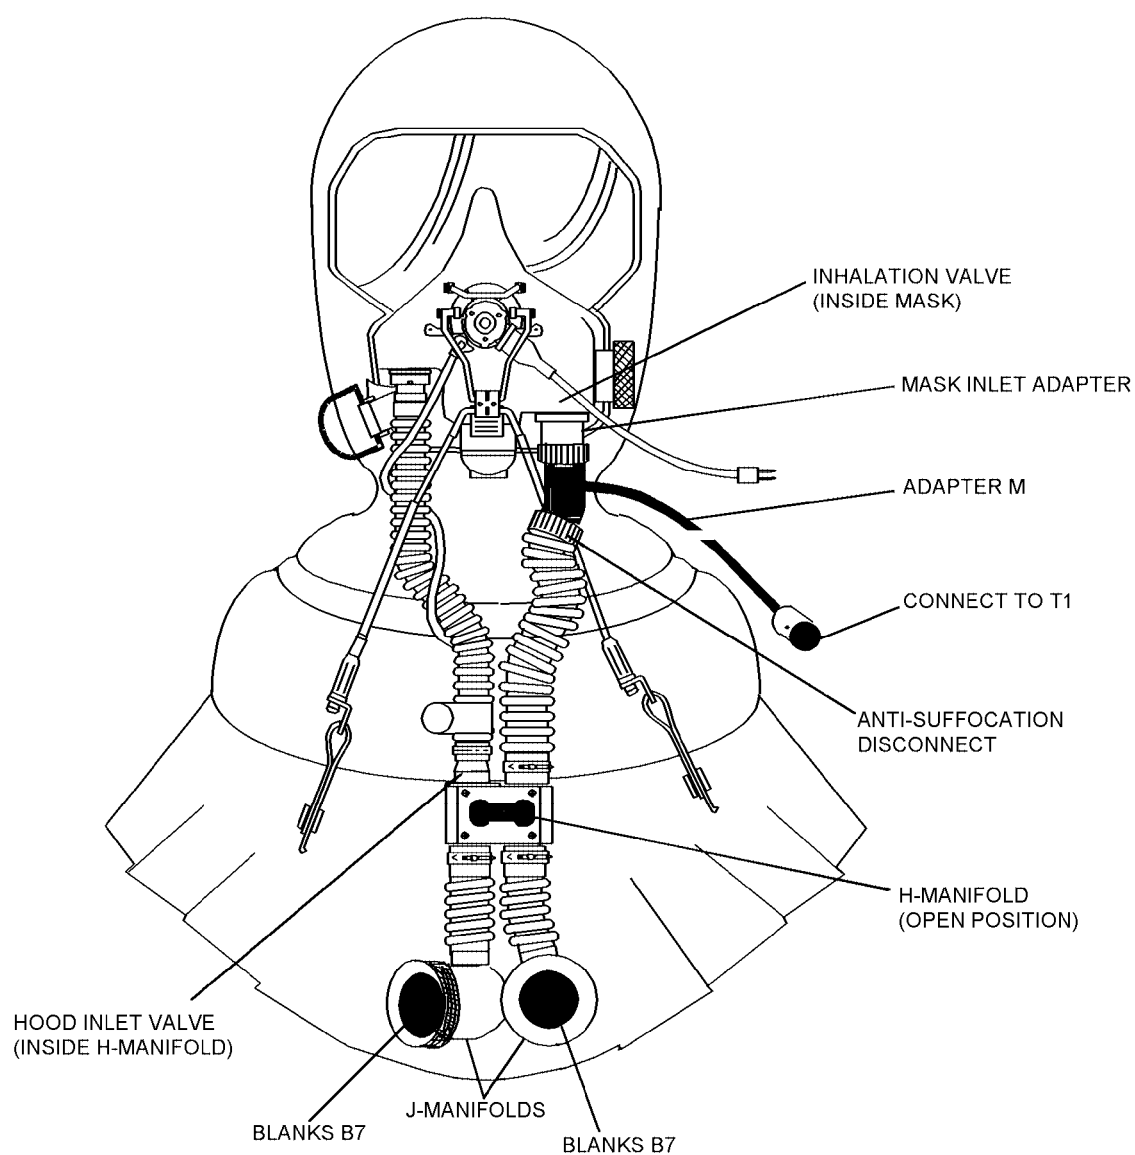

Figure 4-97. (V)2 thru (V)4 Variants - Compensated Exhalation Valve - Functional Test
4. Connect adapter E between the anti-suffocation disconnect and the mask inlet adapter (figure 4-97).